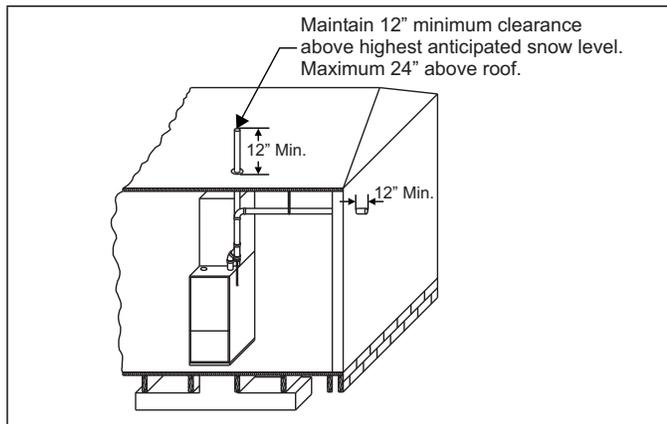
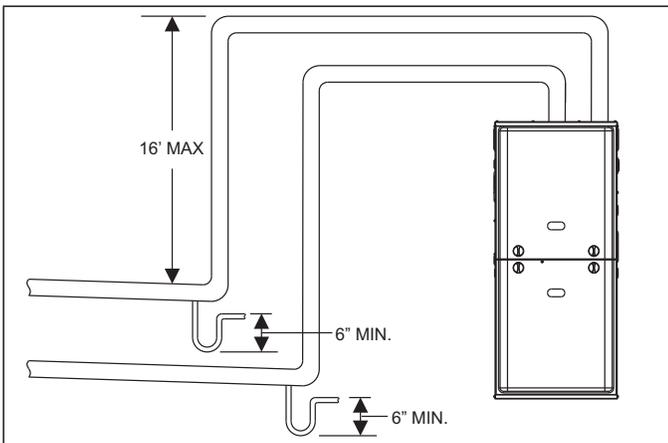
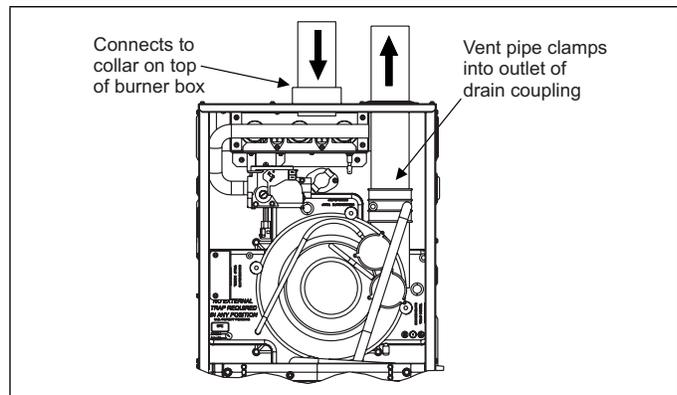
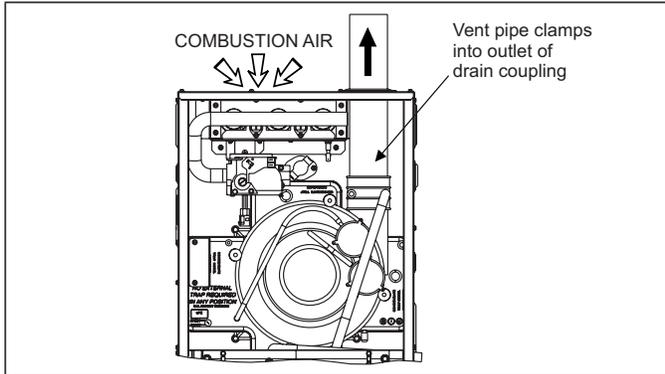

FIGURE 27: Termination Configuration - 1 Pipe
FIGURE 32: Downward Venting
FIGURE 33: Direct Vent Air Intake Connection and Vent Connection
FIGURE 34: Combustion Airflow Path Through The Furnace Casing
The combustion air side of the single pipe configuration shown in Figure 34 is referred to in these instructions as ambient combustion air supply. Follow the instructions for ambient combustion air installations, paying particular attention to the section on air source from inside the building. The vent for a single pipe system must be installed as specified in the venting section of these instructions with both vents terminating as shown in Figure 27. Each furnace must have a separate vent pipe. Under NO circumstances can the two vent pipes be tied together.
1. **OUTDOOR COMBUSTION AIR:** This is a direct vent configuration where the combustion air is supplied through a PVC or ABS pipe that is connected to the PVC coupling attached to the furnace and is terminated in the same atmospheric zone as the vent. This type of installation is approved on all models. Refer to Figure 33.
2. **AMBIENT COMBUSTION AIR:** Combustion air is supplied from the area surrounding the furnace through openings in the furnace casing. The combustion air and the vent pipes are not terminated in the same atmospheric zone. Refer to Figure 27 for vent terminations. Refer to "Ambient Combustion Air Supply" for proper installation. Refer to Figures 33 and 34.
This installation requires combustion air to be brought in from outdoors. This requires a properly sized pipe (Shown in Figure 32) that will bring air in from the outdoors to the furnace combustion air intake collar on the burner box. The second pipe (Shown in Figure 33) is the furnace vent pipe.